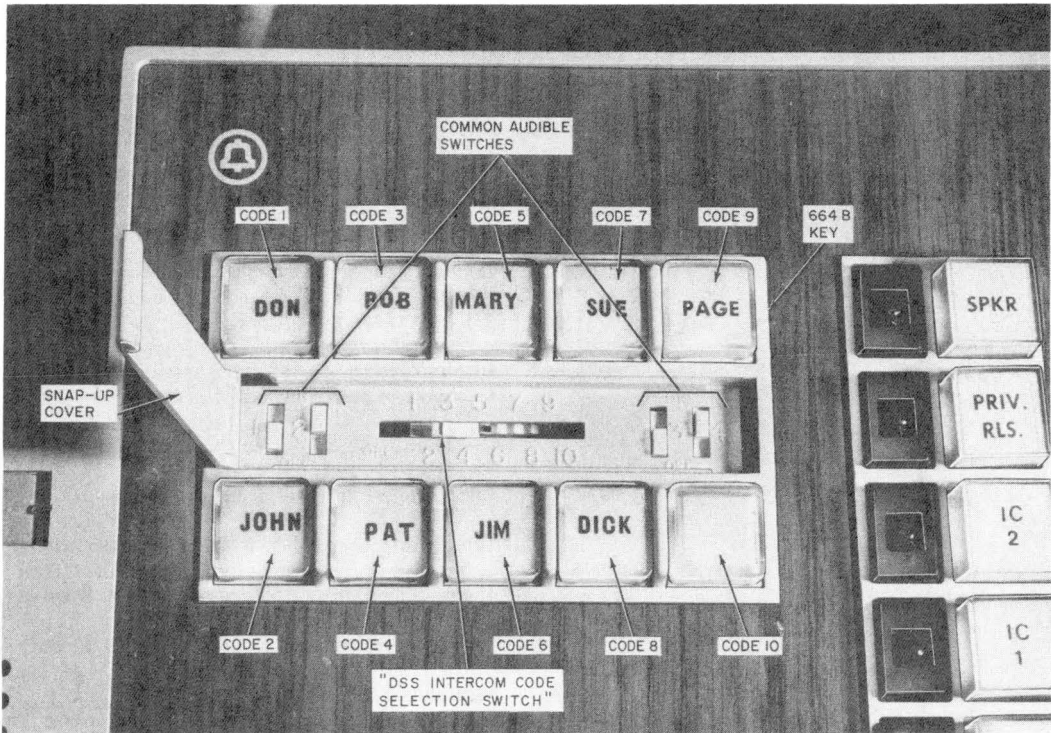

Fig. 22—DSS Key, Cover Open
**3.34** Located under the hinged cover on the DSS key of each station are four common audible switches which control CO/PBX ringing, and the DSS intercom code selection switch which determines the intercom code of the station (Fig. 22). Repeat the following procedure at each station.
- (1) Raise the cover by pressing on the left end to tilt it up or pry up the right end with a fingernail.
- (2) Find out which CO/PBX lines are to ring at the station. Set the switch for each line either ON or OFF. On the standard DSS key (664B), ON is up and OFF is down; on the code busy DSS key (664C), ON is right and OFF is left. (Figure 22 shows the station coded to ring on lines 2 and 4.)
- (3) Find out which intercom code is to be assigned to the station. The following considerations and limitations should apply to code assignments.
- If the standard DSS key (664B) is used, the number of stations plus the number of options assigned to the same DSS code must not exceed 16.
- If the code busy DSS key (664C) is used, the number of stations plus the number of options assigned to the same DSS code must not exceed 4.
- (4) To set the intercom code, slide the DSS intercom code selection switch to the proper number between 1 and 10 (or to OFF if the station is to have no DSS code). Be careful that the switch is not between detent positions. (Figure 22 shows the set coded as station 3.)
- (5) Close the switch cover.